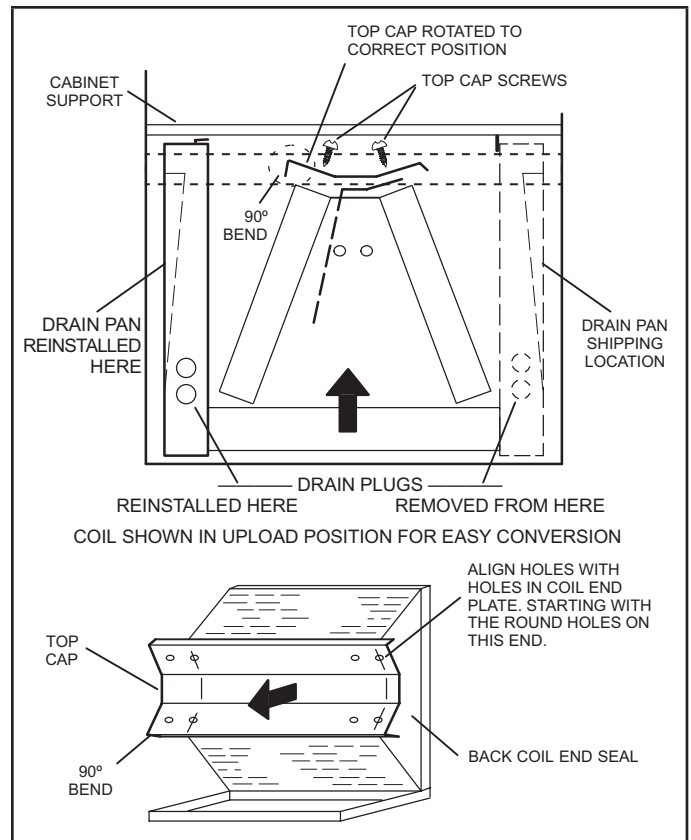

FIGURE 10. Field Modification for Left-Hand Discharge
- 7 - Rotate top cap 180° front-to-back and align with unused screw holes. Holes must align with front and back coil end plates. The top cap has a 45° bend on one side and a 90° bend on the other. **The 90° bend must be on the same side as the horizontal drain pan as illustrated in figure 10.**
- 4 - Connect the suction and liquid lines to the evaporator coil. Take care to protect the cabinet and internal components as detailed in figure 10.